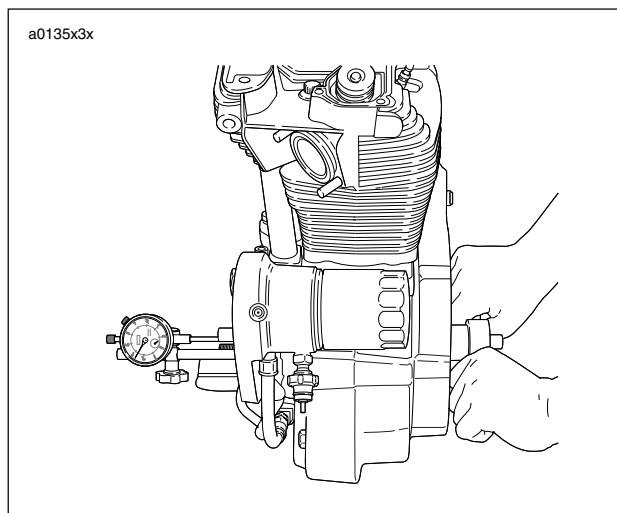

Figure 3-109. Checking Flywheel End Play
- See Figure 3-109. Attach a dial indicator to gear side crankcase with indicator stem on end of gearshaft.